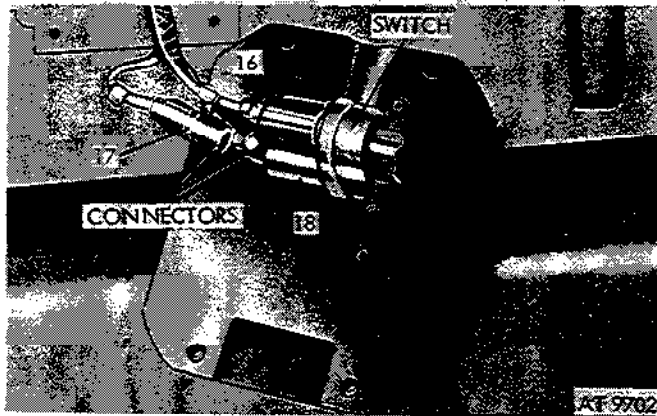

Figure 2-242. Pull connectors from switch.
(28) Pull dimmer switch away from floor. Pull connectors from dimmer switch (see fig. 2-242).